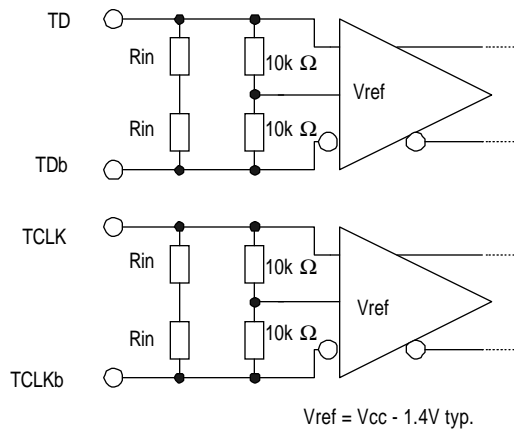

Figure 3 Data and Clock Input Interface
1. Termination current is not included. 2. Measured between each signal input and V_{ee} . Refer to Figure 3.